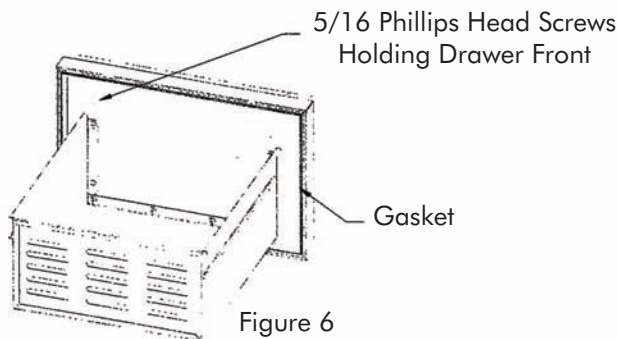

Figure 6
2. Remove drawer fronts. Do this by removing the 8 Phillips screws and washers securing the drawer front to the drawer body (see Figure 6). Mark lightly with an erasable marker the position of the stainless drawer liner as it is secured to the stainless drawer before removing screws.